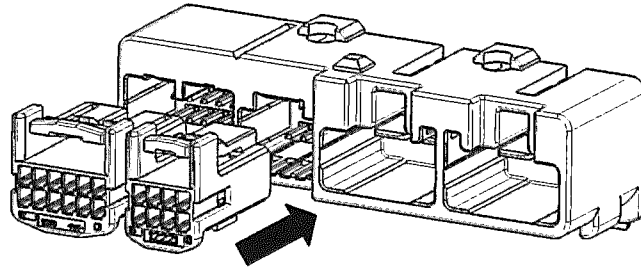

Fig.15
- (3) Insert the proper female housing into the male housing straight with same direction as shown in Fig.15. The operation is finished when you hear the click sound and can not insert further. When you can not insert the housing, do not insert by force and check the items in (1) and (2).